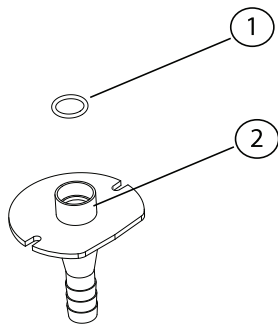

Figure 4.3
6. Insert the O-ring (1) in to the drain pipe sleeve (2). Press the O-ring so it is properly seated in the groove see *Figure 4.3*